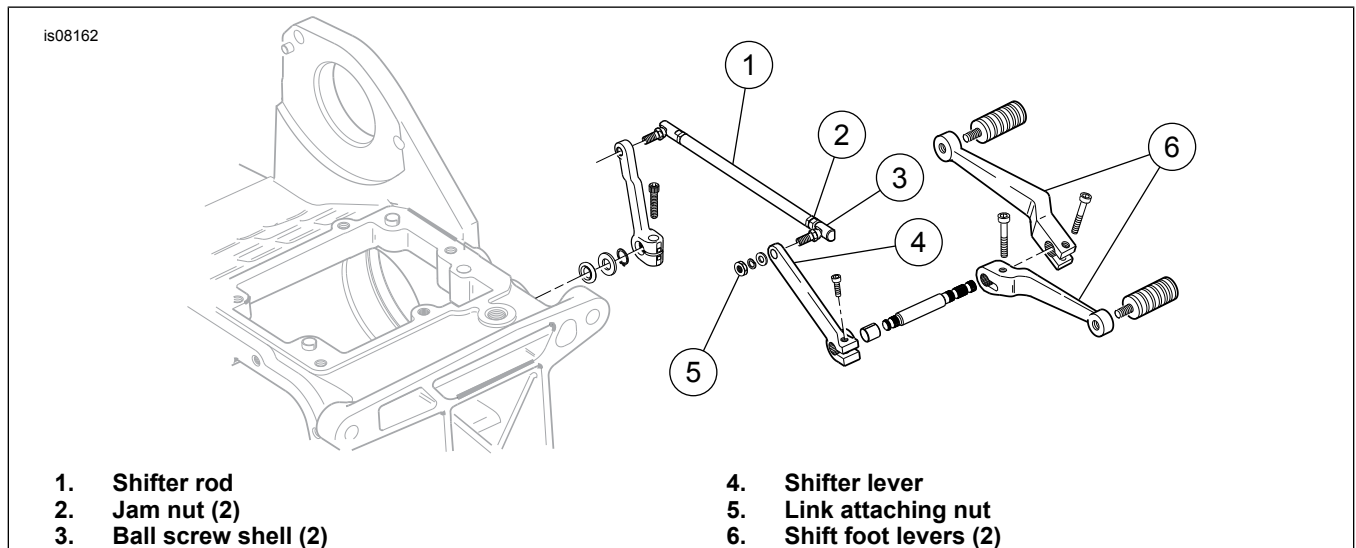
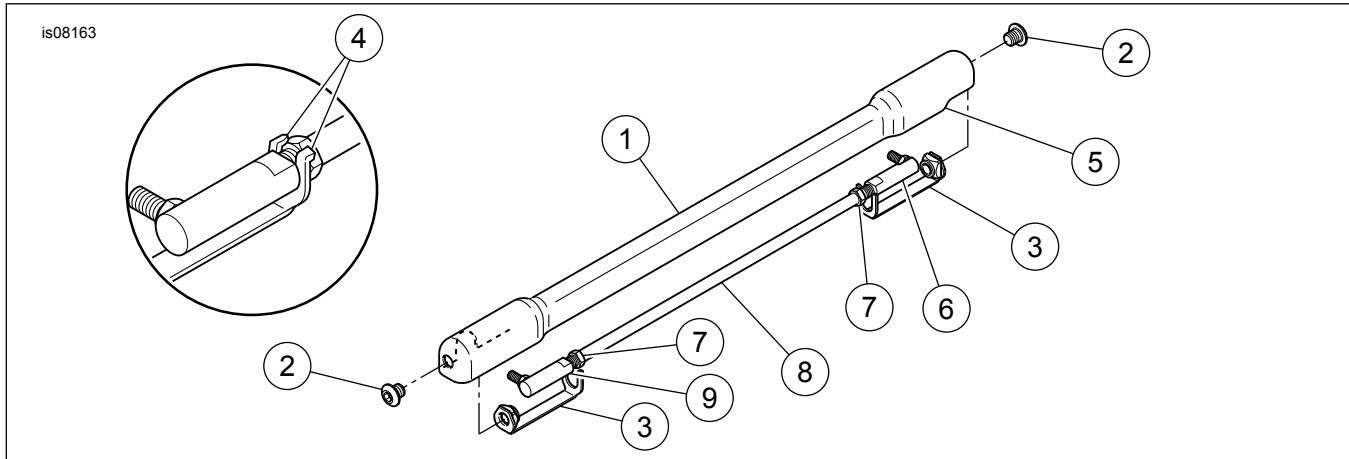

Figure 1. Stock Shifter Linkage
Figure 2. Service Parts
See Figure 2 and Table 1.
1. See Figure 1. Loosen the shifter-rod jam nuts (2).
2. See Figure 2. Fasten a mounting bracket (3) on the bottom side of the shifter rod between the ball screw shell at the rear end of the rod and the jam nut. Tighten the jam nut on the shifter rod to **80-120 in-lbs** (9.0-13.6 Nm).
5. See Figure 1 and the Service Manual. Adjust the length of the linkage, remove the link attaching nut (5), lock washer and flat washer at the forward ball screw.
6. Loosen the jam nut (2) at the front end of the shifter rod, and remove the mounting bracket installed in Step 3. Rotate the forward ball screw shell to achieve the proper length to allow mounting of the cover.
8. See Figure 2. Bend the tabs of each mounting bracket toward the jam nut.
9. Fasten the cover (1) to the mounting brackets using the two short screws (2) from the kit. Tighten the screws to **8-10 ft-lbs** (10.8-13.6 Nm).
10. If the linkage needed adjustment (Steps 5 through 7), the position of the shift foot levers (6) may have changed. To return the levers to their original position, loosen the socket head screws holding the levers to the shaft. Pull the levers from the shaft, rotate them to the desired angle and slide them back onto the shaft. Tighten the screws to **18-22 ft-lbs** (24.4-29.8 Nm).